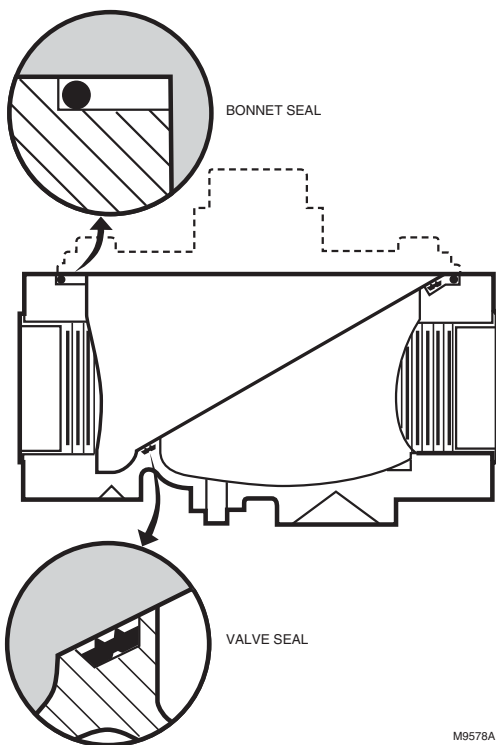

Fig. 1. Placement of valve and bonnet seals.
8. Coat the new rubber seals with the grease provided and position them in the valve body as shown in Fig. 1 or 2. (Small seal on the 4-inch valve is mounted on the bonnet assembly.)